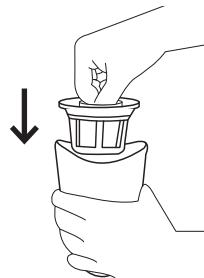

Figure 9
6. Reassemble the components in the container (Fig. 9).